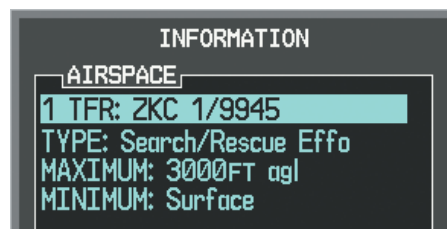

Figure 6-92 Full Text for Selected TFR
- 4) If necessary, turn the **FMS** Knob to select 'Review Airspaces' and press the **ENT** Key. The system displays the TFR Information window (Figure 6-92).